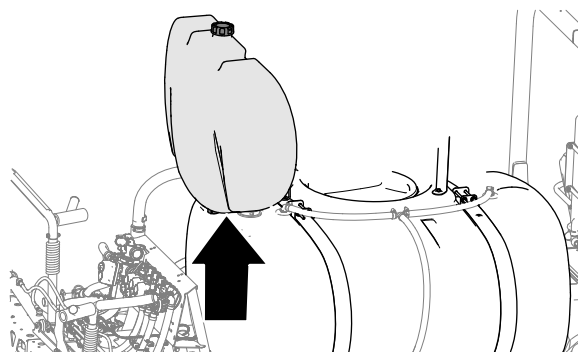

Figure 5
- Remove the rinse tank from the machine (**Figure 5**).